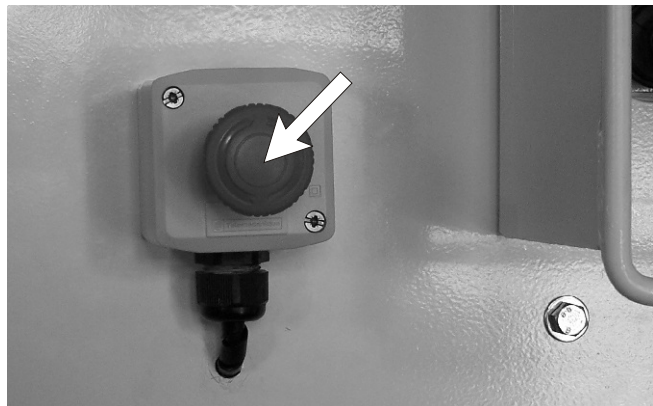

Figure 7.5 - Emergency Stop Switch, Lower Controls - Units with PTO
2. **Emergency Stop - PTO Units:** Press the large red button in and the entire machine stops, the engine turns off, and nothing moves (see Figure 7.5). This switch must be out (on) to start and run the EPV (pull the switch and it will pop out).